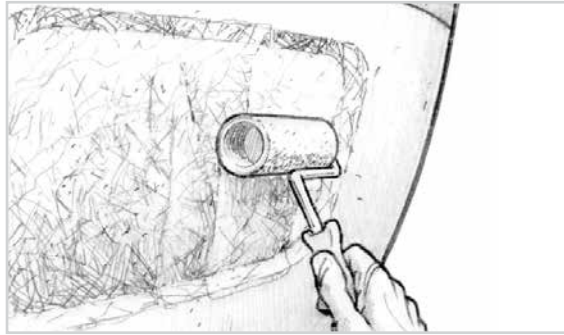

Figure 12-12 Wet out the repair surface with unthickened epoxy. **Figure 12-13** Apply a layer of epoxy/406 thickened to a mayonnaise consistency.
2. Wet out the repair area with a resin/hardener mixture (Figure 12-12).